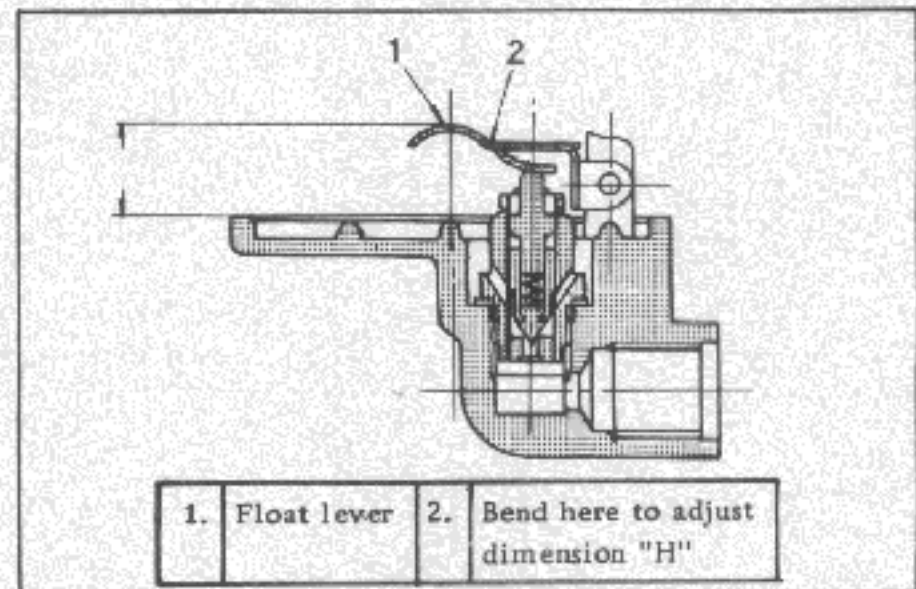

Fig. EF-70 Adjustment of float level
3. The float level is correct if dimension "H" in Fig. EF-70 is 14 to 15 mm (0.5512 to 0.5906 in.) under the foregoing conditions. If the dimension is not correct, adjust by bending as shown in Fig. EF-70.